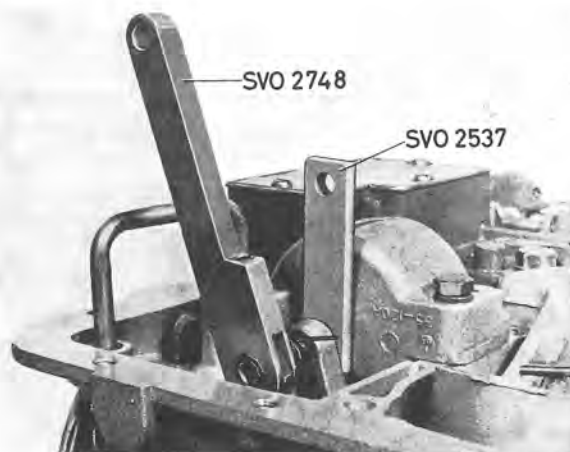

Fig. 4-120. Adjusting front brake band
25. Place the spacer bar 2537 between the bolt and cylinder, see Fig. 4-120. Tighten the bolt with torque wrench 2748 until the ratchet handle